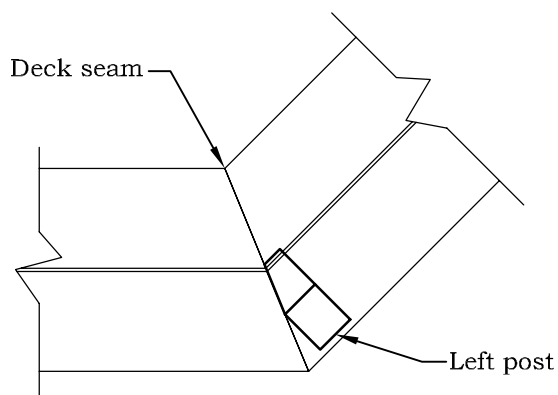

FIGURE W1
- Erect the wall section (beside the doorway) on the completed decking. The beveled edges of the Posts will sit exactly over the seam between the decking pieces. The outside edge of the Deck. See Figure W1. The bevel should line up with the seam between the pieces of the decking.